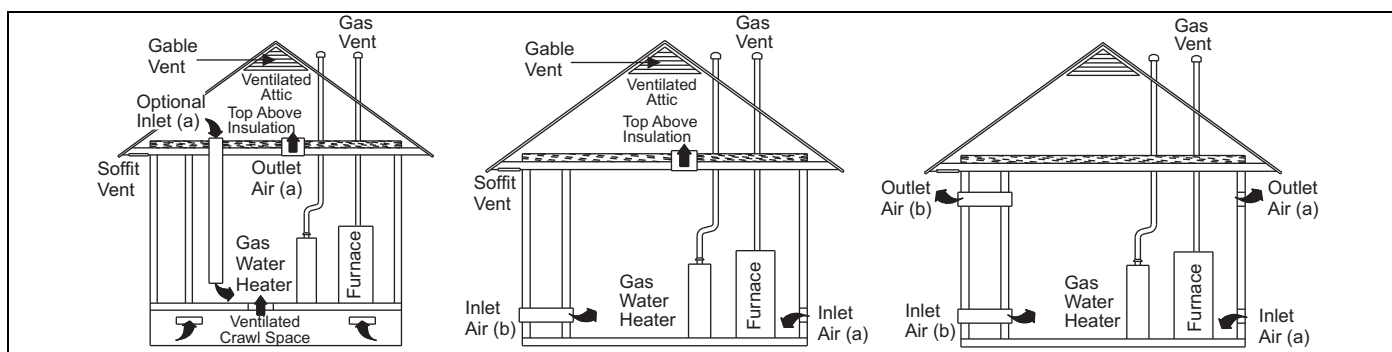

FIGURE 36: Outside and Ambient Combustion Air
3. **VENTILATED COMBUSTION AIR:** Combustion air is supplied through a PVC or ABS pipe that is connected to the PVC coupling attached to the burner box and is terminated in a ventilated attic or crawl space. The combustion air and the vent pipes are not terminated in the same atmospheric zone. Refer to Figure 36 for attic and crawl space termination. Only the combustion air intake may terminate in the attic. The vent must terminate outside.
Refer to Figure 36 for required attic termination for the combustion air intake pipe. For attic termination, use two 90 elbows with the open end in a downward position. Be sure to maintain 12" (30.5 cm) clearance above any insulation, flooring or other material.